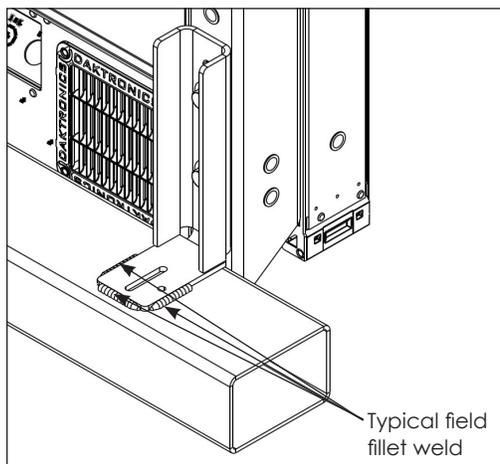
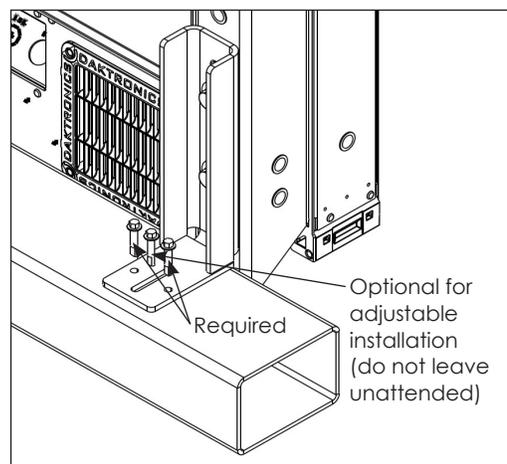

Figure 19: Typical Welded Attachment
Figure 20: Typical Weldless Attachment
- Attach the clips permanently to the structure. Refer to the contract-specific Shop Drawing for more details on welding or bolting requirements. If both are illustrated on the Shop Drawing, contact the project manager. Refer to **Figure 19** for a typical welded attachment or to **Figure 20** for a typical weldless attachment.